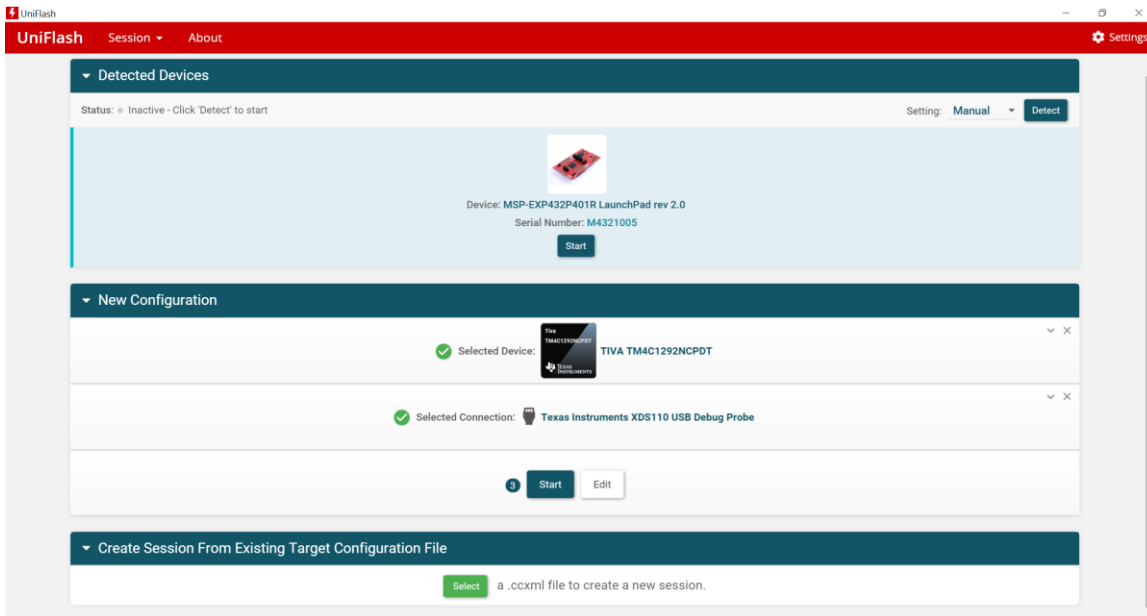

图 17. Device Configuration in UniFlash
1. After starting a new UniFlash session, the detected device will be an MSP432P401R LaunchPad if using the onboard XDS110-ET. A new configuration must be selected. The device is a *Tiva TM4C1292NCPDT*, and the connection is the *Texas Instruments XDS110 USB Debug Probe* (see 图 17).